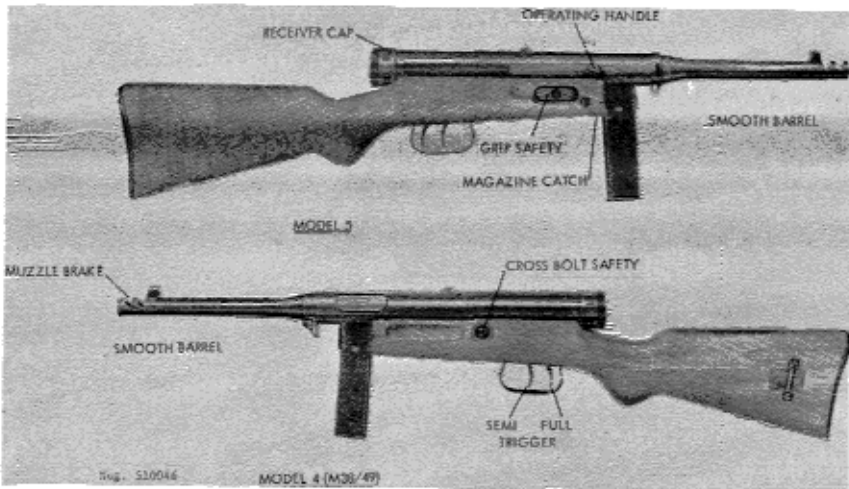

Figure 47. Beretta Model 4 and Model 5 submachineguns.
e. The current gun is the Beretta Model 38/49 (fig 47), also known as the Beretta Model 4. This gun can be easily recognized by its push-through safety. A variation, the Beretta Model 5, is identical except that the push-through safety has been replaced with a large grip safety bar (fig 47).
b. Insert the loaded magazine into the magazine guide until the magazine catch snaps into place. Push the safety catch to the left or, for a Model 5, depress the grip safety bar (fig 47). On the earlier M38, M38A, M38/42, and M38/44, push forward the safety (on the left side of the receiver) (fig 45). Pull the operating handle fully rearward to cock the weapon, then return it forward. **CAUTION:** The gun is now ready to fire.
c. If the weapon is not to be fired immediately: On the M38, M38A, M38/42, and M38/44, move the safety (fig 45) rearward; on the M38/49 or M4, push the safety (fig 47) to the right; or on the M5, release the grip safety bar. To fire, move the safety back to fire position (or, on the M5 squeeze the grip safety bar), aim, and press the trigger. If the front trigger (fig 45) is pressed, only one shot will be fired. This trigger must be released and repressed to fire successive shots. If the rear trigger (fig 45) is pressed, the weapon will continue to fire until the magazine is empty. When the last round is fired, the bolt will close on an empty chamber. Press the magazine catch (fig 47) and pull the magazine out of the gun.
a. Clear the gun (para 77), but do not insert the magazine or apply the safety. Rotate the receiver cap (fig 47 and 48) one-quarter turn to the left and ease it back. Remove the receiver cap and pull the driving spring and bolt out of the receiver. It may be necessary to elevate the muzzle and press the trigger (first depressing the grip safety bar on the M5) to allow the bolt to slide rearward out of the receiver. No further disassembly is required or desirable.